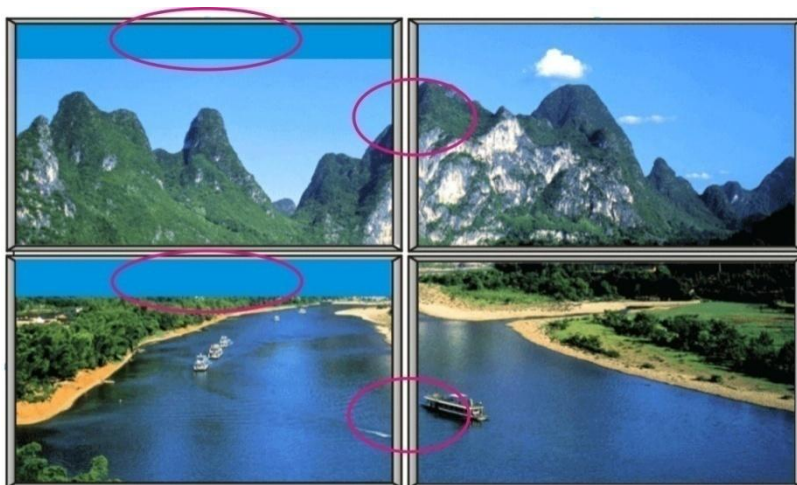
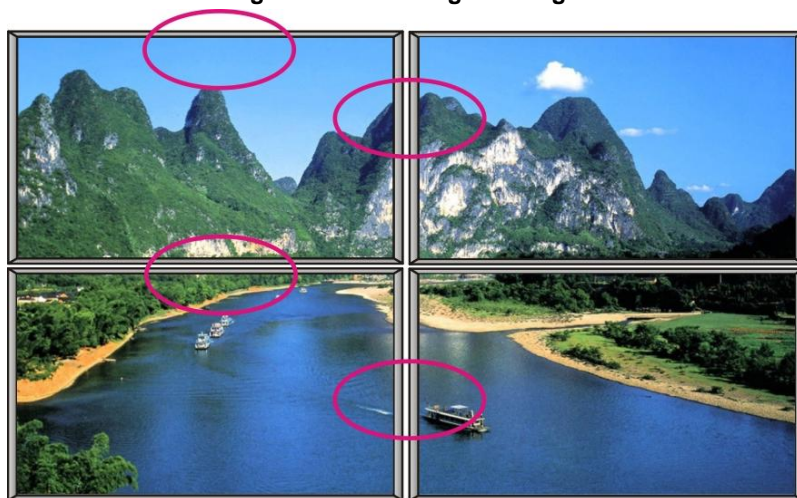

Figure 5-18 The Original Image
Figure 5-19 The Image Adjusted
Figure 5-18 and **Figure 5-19** will show you the difference between the original image and the image adjusted.
- 2) In **Figure 5-18**, the position of the images on the left side is lower than the right ones. The place marked with circle shows the effect that the images joined (before & after).